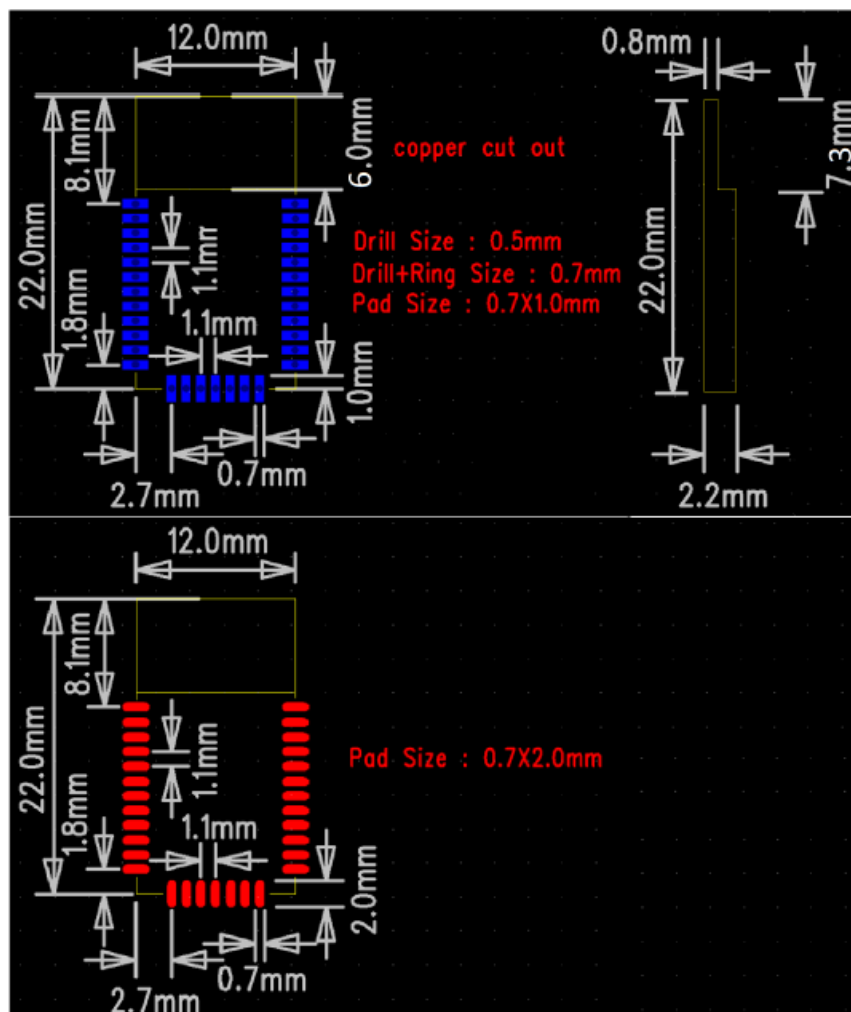

Figure 8: Mechanical Size and Recommended PCB Footprint
1. No ground below the antenna region (copper cut out in Figure 8) of the FMB120.